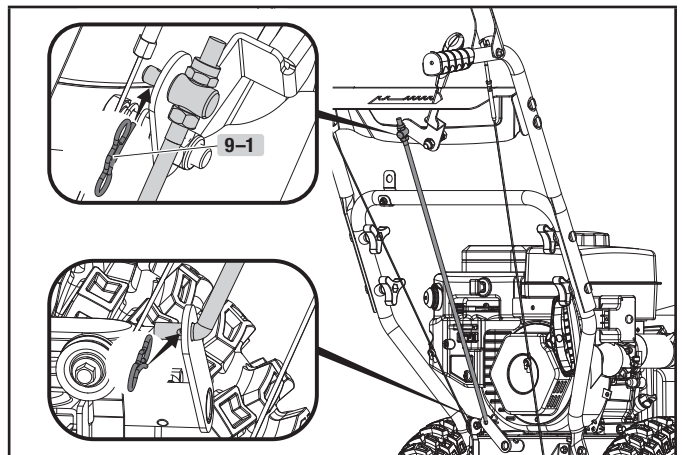

Figure 9
2. Connect the connecting lever and speed adjusting handle with clip (Fig. 9).